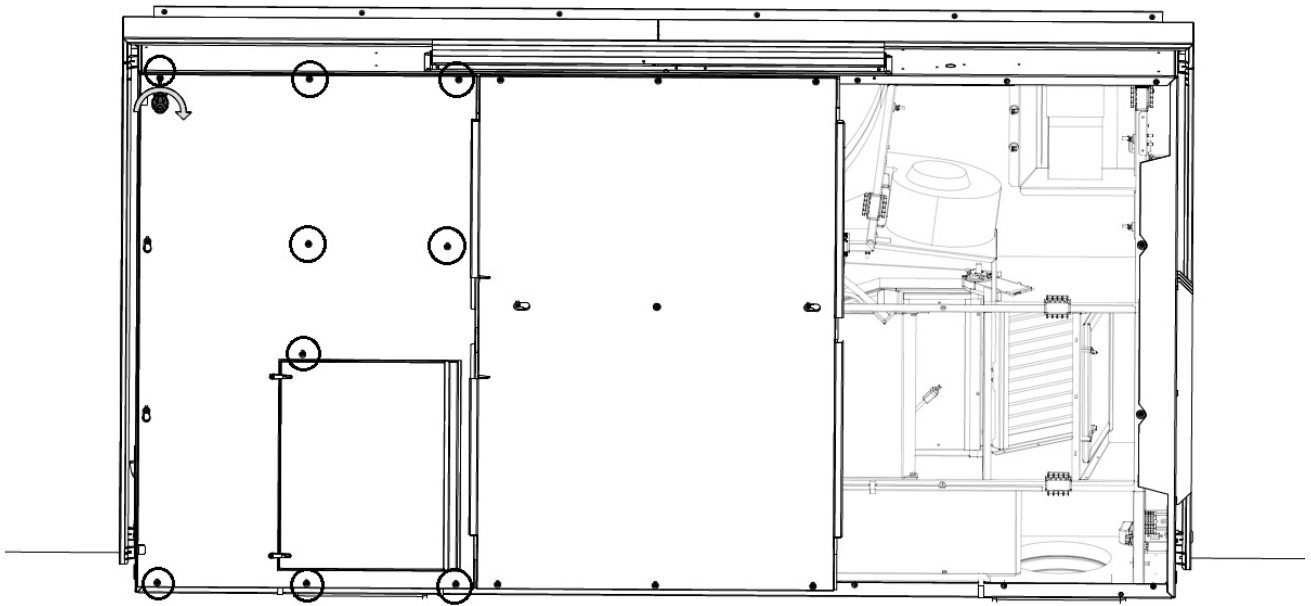

Figure 43: Attachment points for the left-hand steel plate
8. Screw the steel plate into the unit frame using nine short bolts, see Figure 43.